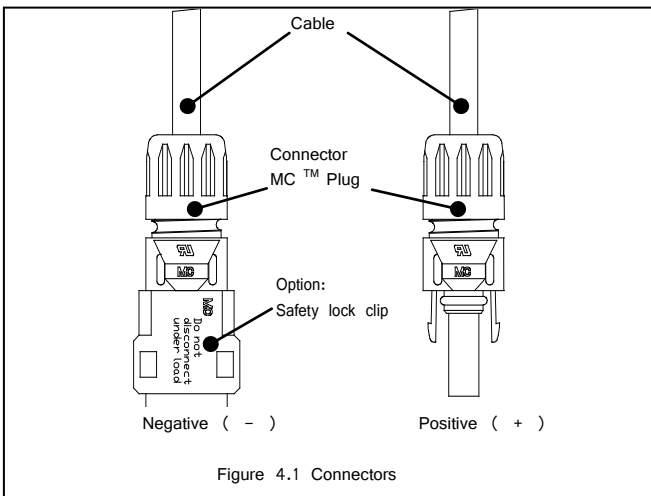

Figure 4.1 Connectors
- A junction box as a terminal enclosure is equipped for electrical connections. VBHNxxxSA16 and VBHNxxxSA16B Modules are equipped with MC™ plugs as a terminal enclosure. Use these MC™ plugs for electrical connections (see Figure 4.1).